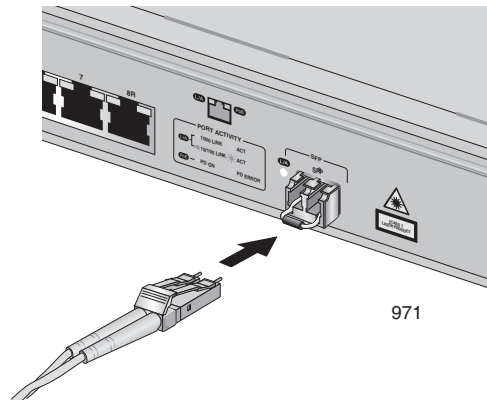

Figure 13. Connecting Fiber Optic Cables to the SFP Transceiver
2. Connect the fiber optic cable to the SFP transceiver, as shown in Figure 13.